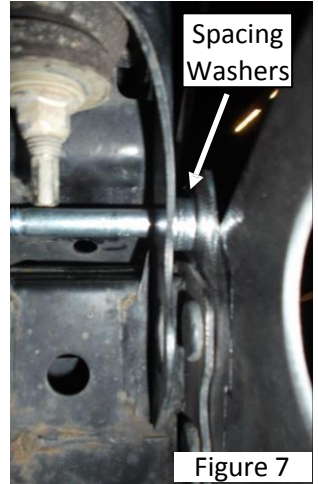

Figure 7
18. Insert two of the  $\frac{1}{2}$ " x 5" Hex Bolts with a  $\frac{1}{2}$ " USS Flat Washer through the top slots of the bumper mounting plate. Use spacing washers (the washers with the smaller outside diameter) to fill the gap between the bumper mounting plate and the body mount portion of the frame as shown in **Figure 7**. Select the appropriate number of spacer washers to match the size of the gap as closely as possible (most applications will use 5 spacer washers per side.) Insert the  $\frac{1}{2}$ " x 5" bolt through the mounting plate, through the spacing washers, and then completely through the frame. (You can create more finger space by backing off the 6 nuts threaded on in step 17).